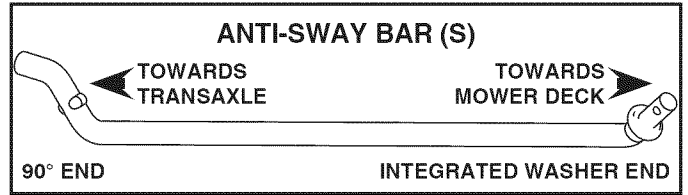

Fig. 33
5. INSTALL ANTI-SWAY BAR (S) (IF EQUIPPED) (See Fig. 33 - 35)